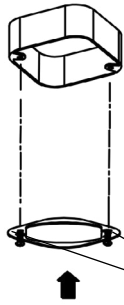

Figure 2
2. Align and secure junction box mounting plate to j-box using mounting screws. (Ground junction box mounting lead to face room side) Firmly place junction box mounting plate against the ceiling. Do not overtighten the mounting screws as this can distort the plate. (Figure 2)